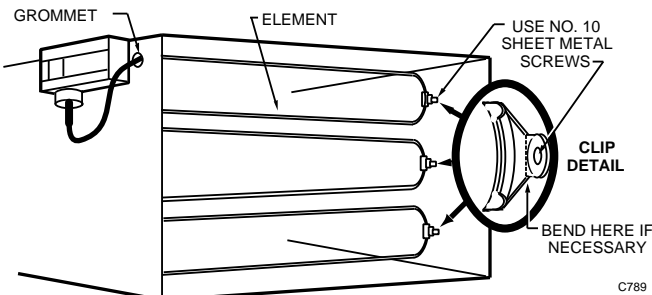

Fig. 2. Element mounted to duct with CCT2600 Clips.
- Mount element horizontally as shown in Fig. 2 and 3.
2. Punch or drill a 1/4 in. hole in the duct and install CCT1802 Grommet (Fig. 2) to protect the capillary.
- a. Duct mounting: Use CCT2600 Clip (Fig. 2).